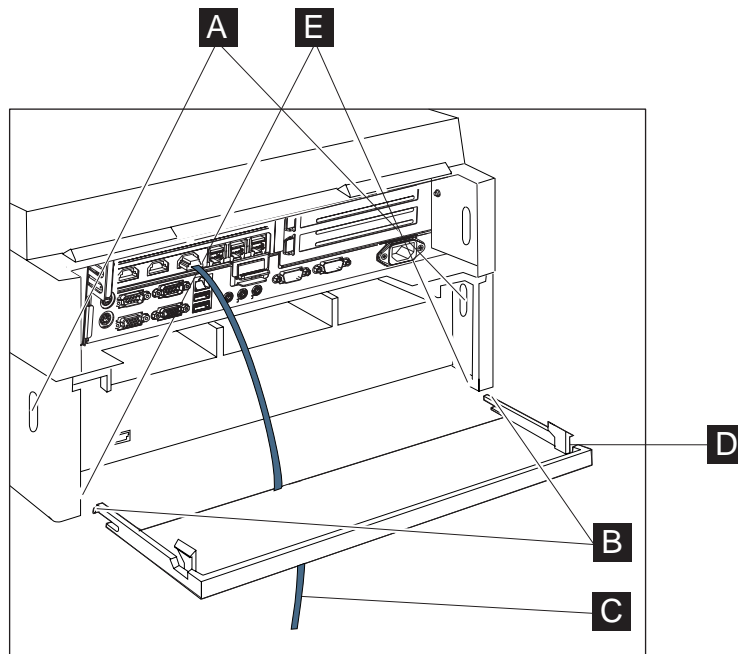

Figure 46. Installing cash drawer cables
3. Push in the side buttons ( **A** in Figure 46) on the rear cover of the cash drawer to open it, and then remove the rear cover **D**.